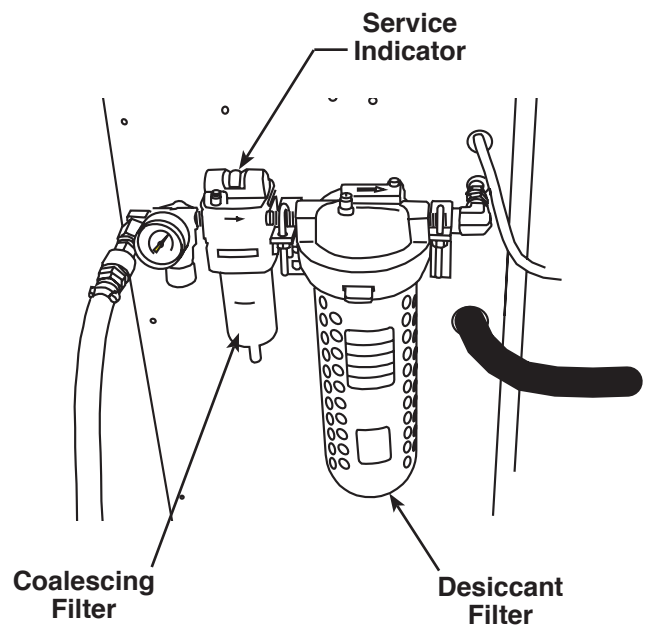

Figure 14
3. Remove the bowl / guard assembly from the coalescing filter housing by pushing the bowl toward the housing body, rotating the bowl CCW (counterclockwise), and then pulling the bowl downward. See Figure 14.